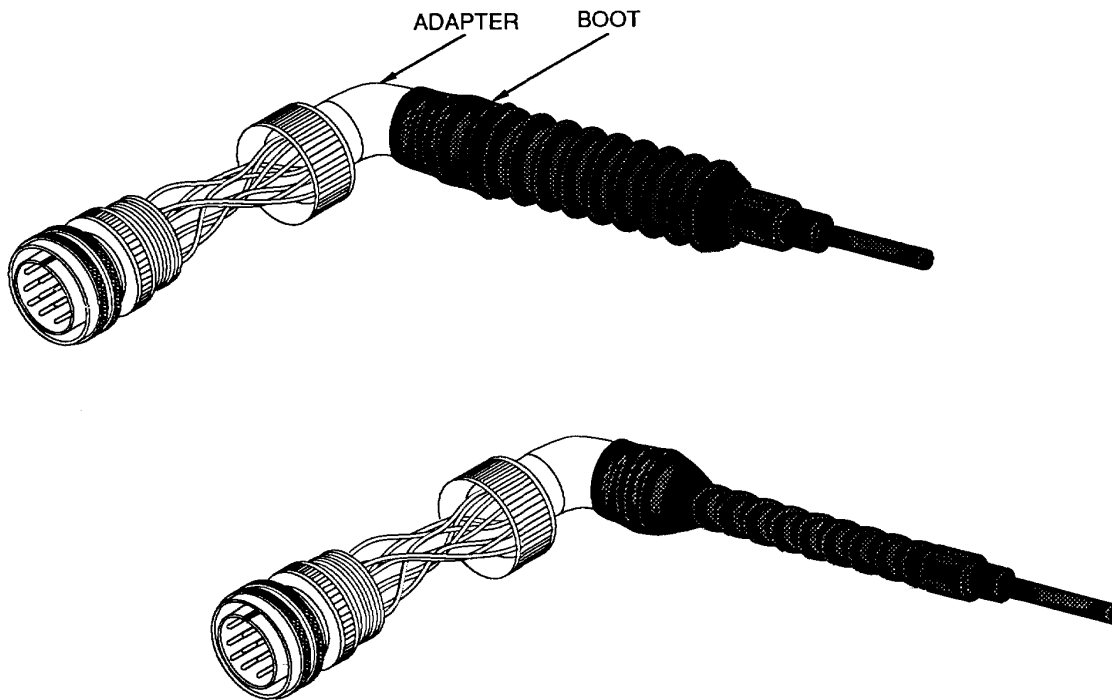

Figure 10. Adapter and Boot Pulled Back
d. Pull adapter and boot back from connector, exposing wiring, and hold boot back until cool (Figure 10).